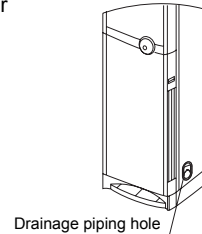

Fig.11
3.When doing the piping and wiring at left, right and rear side, please use attached accessories, upper/lower baffle. (As shown in Fig.11)